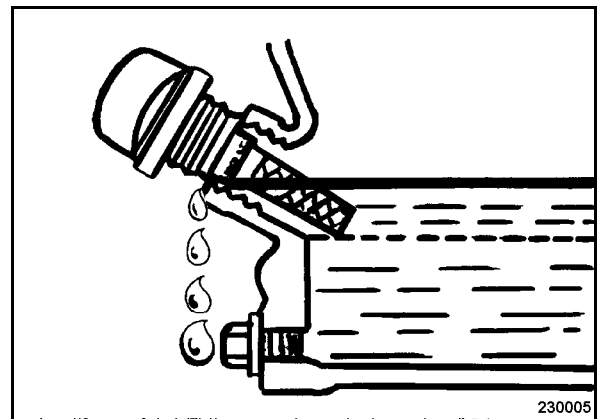

Fig. 32
- Pull out the dipstick (Fig. 32) and wipe it clean with a lint-free, clean cloth.